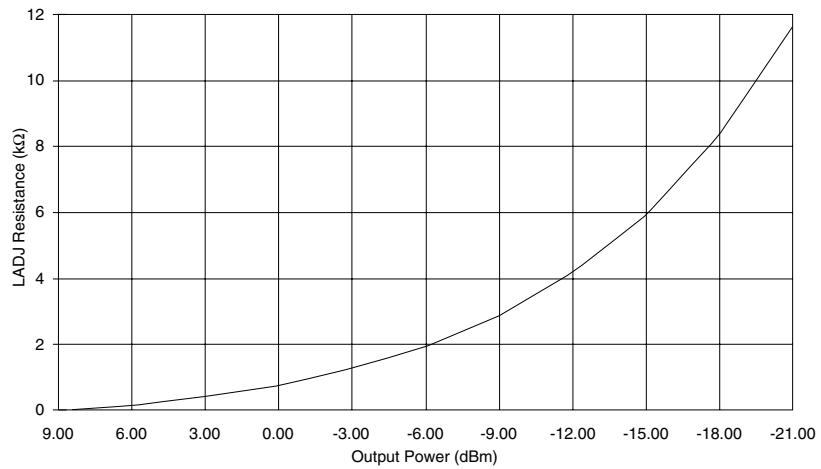

Figure 6: Output Power vs. LADJ Resistor
3.	See Figure 6 on page 4
The Level Adjust (LADJ) line allows the transmitter's output power to be easily adjusted for range control, lower power consumption, or to meet legal requirements. This is done by placing a resistor between  $V_{cc}$  and LADJ. The value of the resistor determines the output power level. When LADJ is connected to  $V_{cc}$ , the output power and current consumption are at the maximum. Figure 6 on page 4 shows a graph of the output power vs. LADJ resistance.